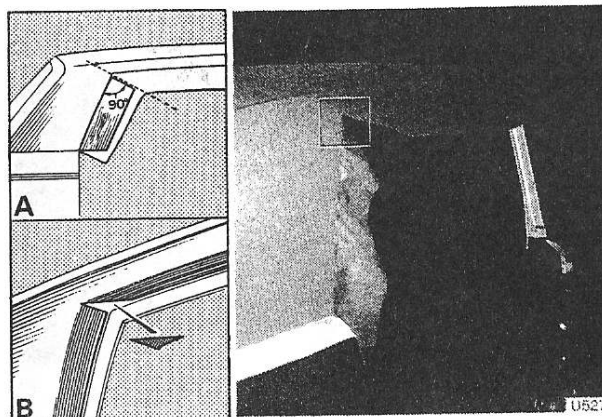

Fig. S113 Fitting the Everflex around the rear door aperture
40. Fit the trim around the rear door aperture. Using a template, mark and then make a diagonal cut into the top rear corner of the aperture trim to facilitate the fitting procedure (see Fig. S113, inset A).
42. Cut and fit triangular pieces of Everflex into the top rear corners of the rear door apertures (see Fig. S113, inset B). Apply Boscoprene Adhesive 2402 to both bonding surfaces, allow to 'flash' dry, then press into position.